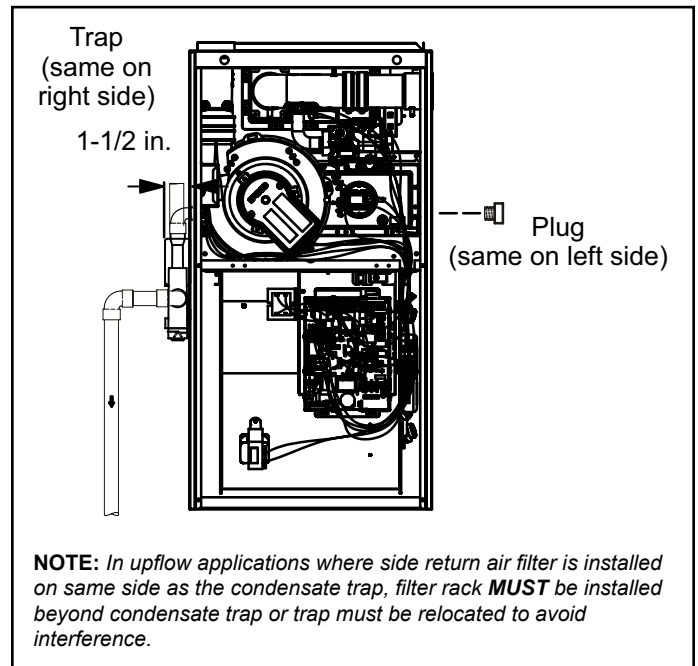
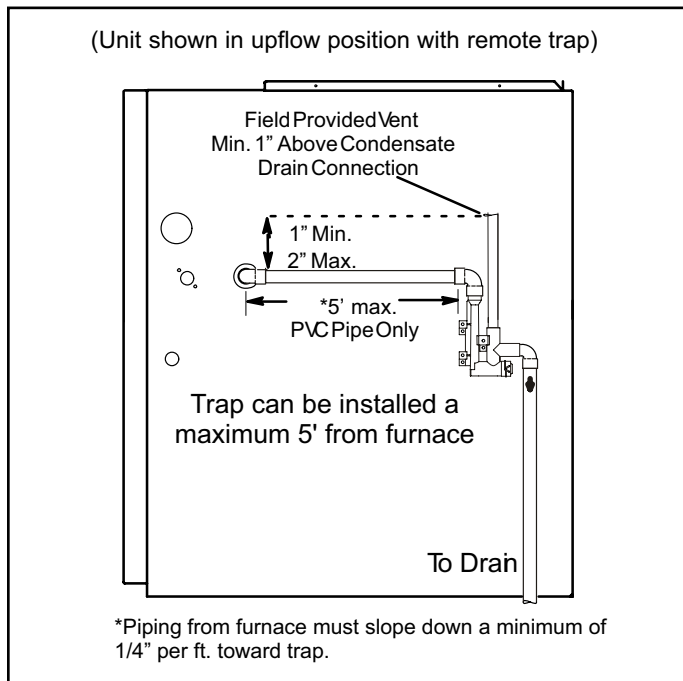

Figure 33. Condensate Trap and Plug Locations (unit shown in upflow position)
Figure 35. Condensate Trap Locations
This unit is designed for either right- or left-side exit of condensate piping in upflow applications. In horizontal applications, the condensate trap must extend below the unit. An 8" service clearance is required for the condensate trap. Refer to Figure 33 and Figure 35 for condensate trap locations. Figure 41 shows trap assembly using 1/2" PVC or 3/4" PVC.
2. Use a large flat head screw driver or a 1/2" drive socket extension and remove plug (Figure 33) from the cold end header box at the appropriate location on the side of the unit. Install provided 3/4 NPT street elbow fitting into cold end header box. Use Teflon tape or appropriate pipe dope.